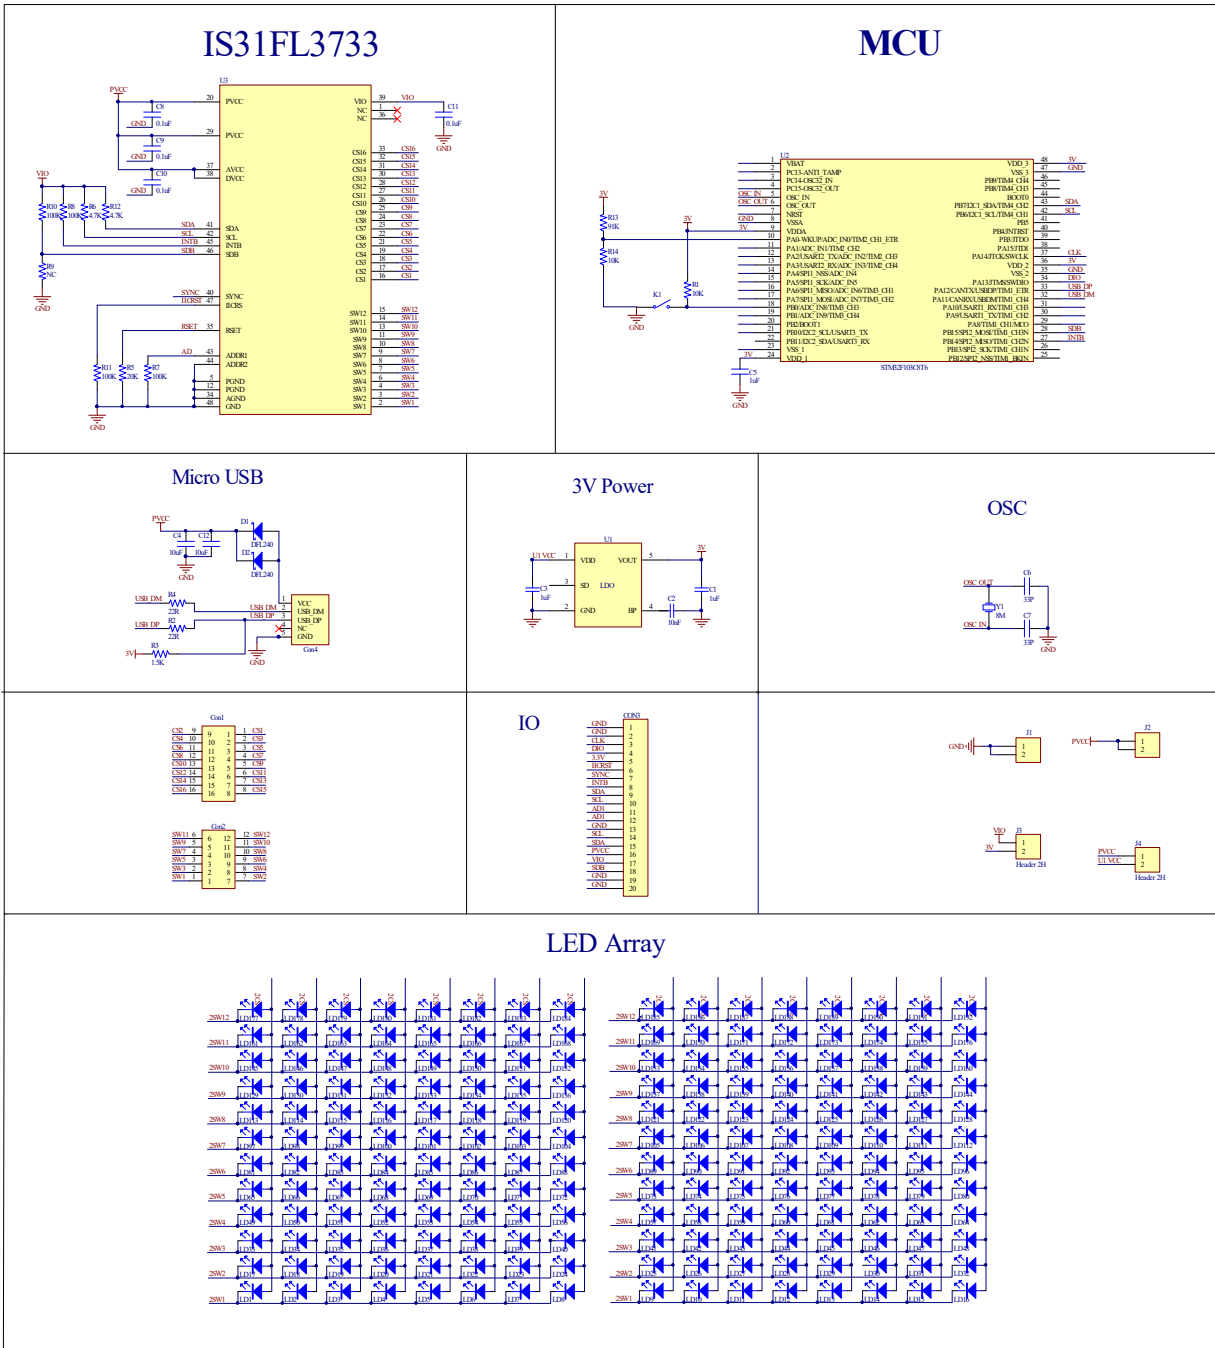

Figure 2: IS31FL3733 Application Schematic
*Bill of Materials, refer to Figure 2 above.*